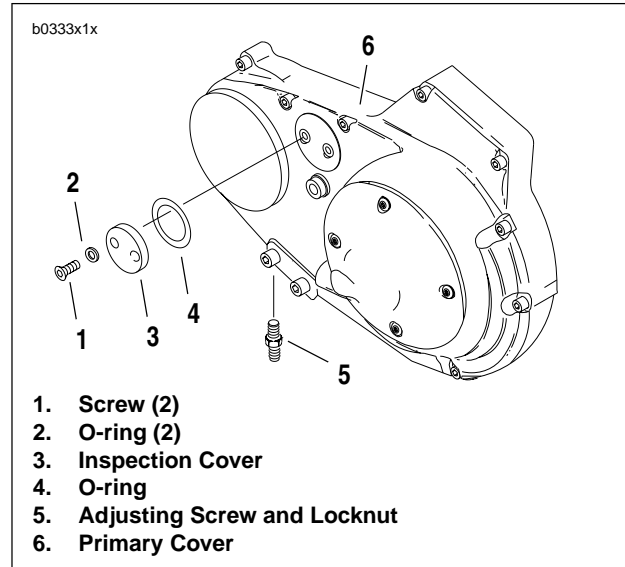
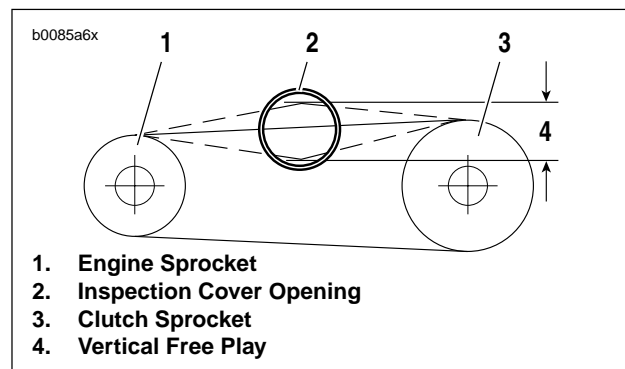

Figure 1-26. Primary Chain Inspection Cover
Figure 1-27. Measuring Primary Chain Tension
See Figure 1-26. Measure primary chain tension through the inspection cover (3) opening. Adjust primary chains not meeting vertical free play specifications.
1. See Figure 1-26. Remove two screws (1) and O-rings (2).
2. Remove inspection cover (3) and O-ring (4) from primary cover (6).
3. See Figure 1-27. Check primary chain tension by measuring vertical free play (4).
- a. Measure vertical free play through inspection cover opening (2).
5. See Figure 1-26. Install O-ring (4).
6. Fasten inspection cover (3) to primary cover (6) using two screws (1) with O-rings (2). Tighten to 40-60 in-lbs (5-7 Nm).